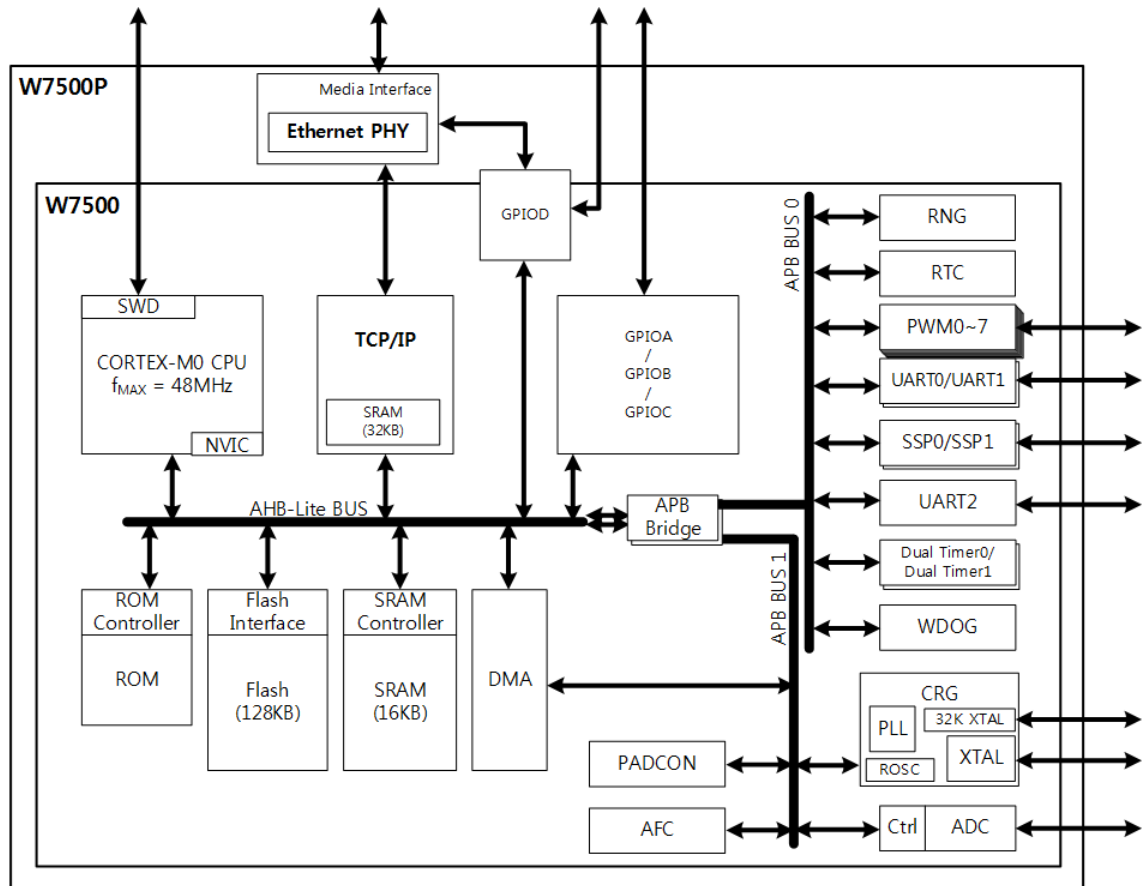

Figure 1. W7500x System Architecture
| Figure 1. W7500x System Architecture | 8 |
- Figure 1 shows the general block diagram of the W7500x family.